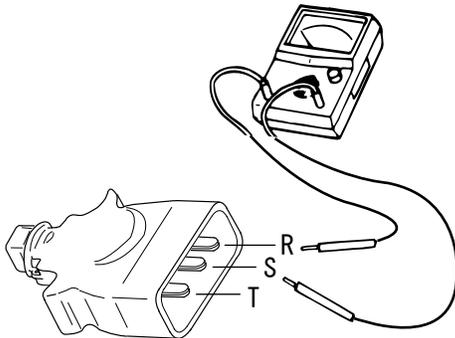

Figure 6. Conduction Test of Plug Terminals
4. With the switch turned on, use a mega-ohmmeter to check for conduction between R-S, S-T, and T-R at the plug terminal (Figure 6).